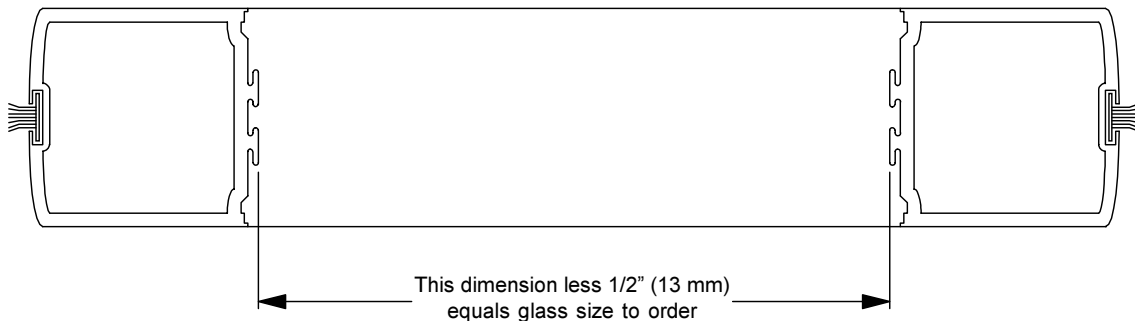

Figure 27. Glass Measurement
- If the installation is **not** a standard package, measure the width and height between the stile extrusions and **subtract 1/2” (13 mm) (Figure 27)**. This is the glass size to order.